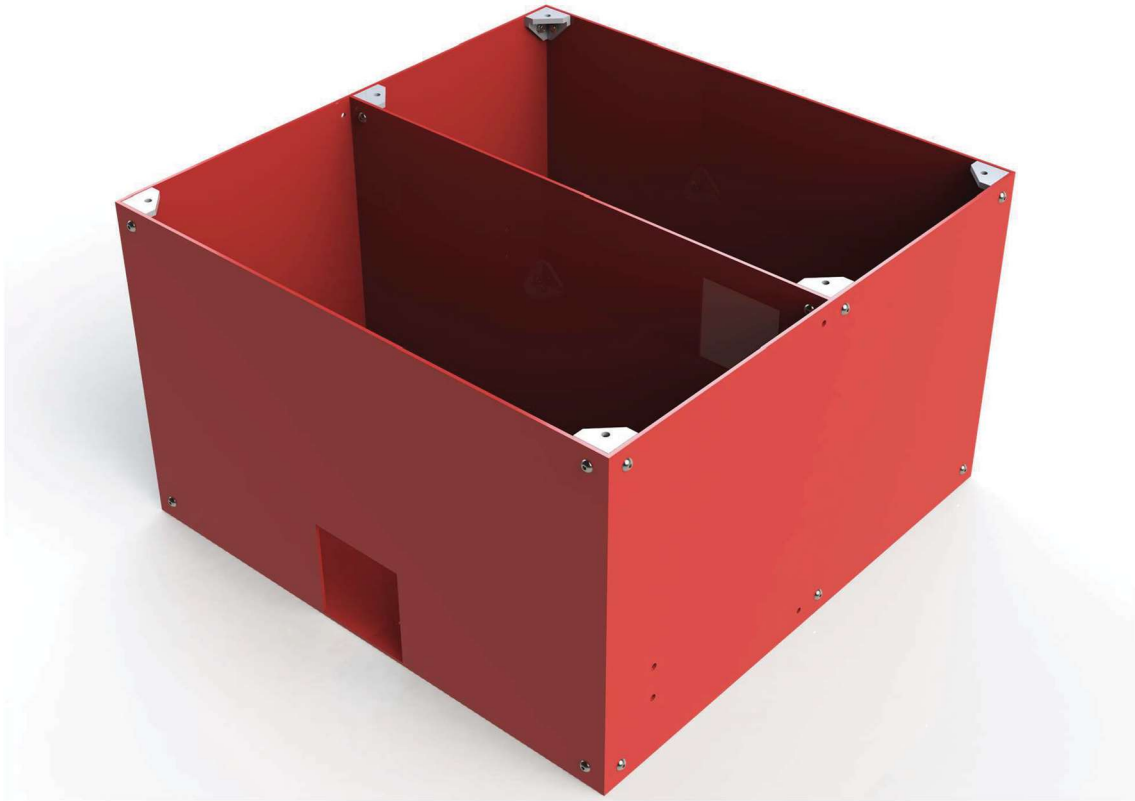
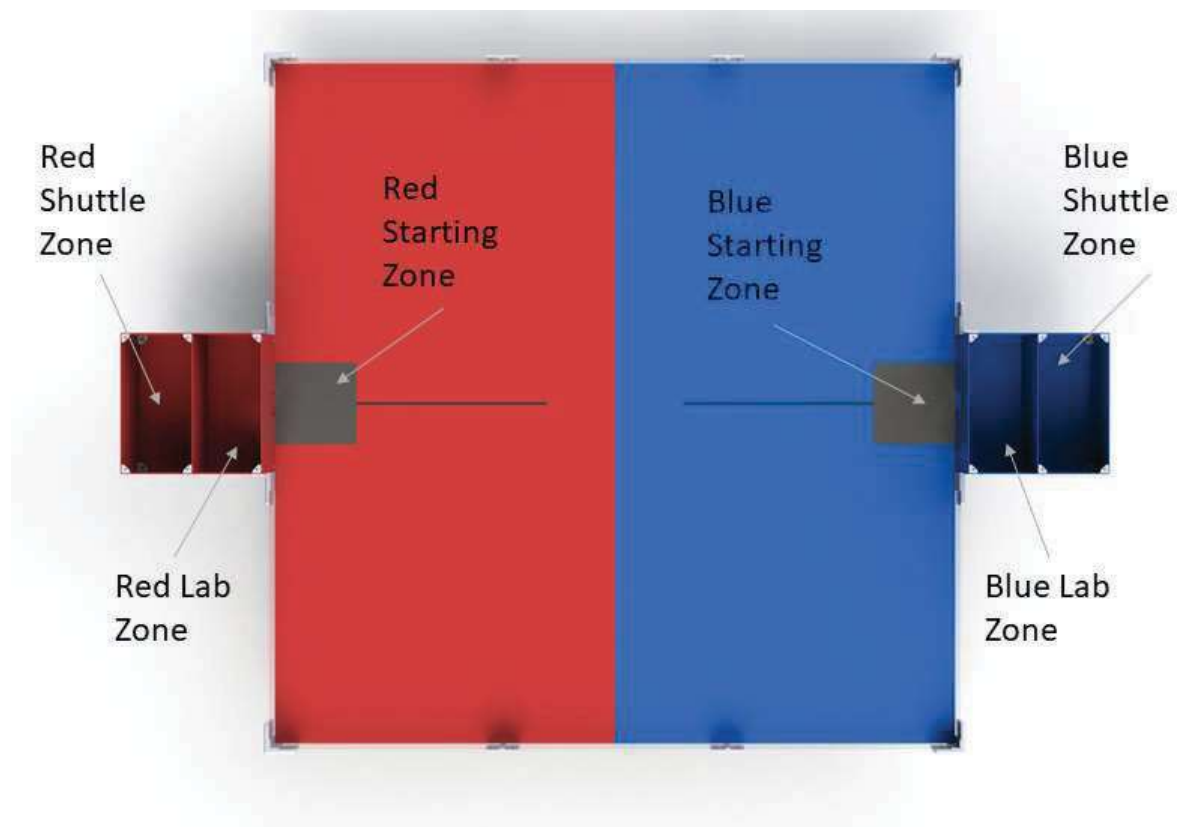

Figure 3: Starting Box
Figure 4: Field and scoring area
1. There is 1 type of scoring object in play, spheres (as seen in figure 3) - these are standard ping pong balls. They are arranged in a within an alien monolith as in figure 4 and five of such monoliths will be lined up along the middle line between the 2 team's zones. Please take note that the tube utilized in this competition is open on both sides. Teams are expected to destroy the monoliths by push and toppling them, breaking them down into mineral spheres and introducing the spheres into the environment.